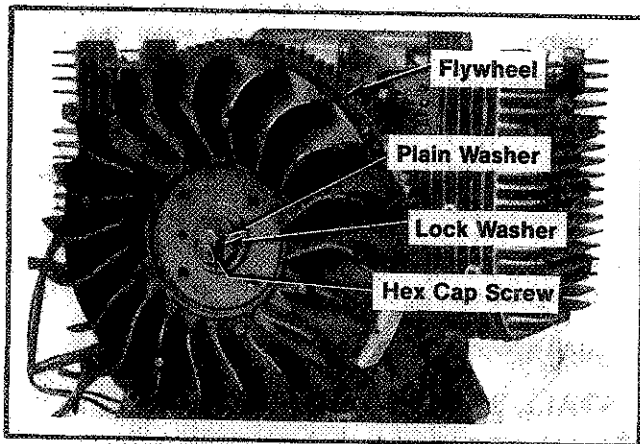

Figure 11-37. Installing Flywheel Fastener.
2. Place the flywheel on crankshaft and install plain washer, split lock washer, and hex cap screw (lubricate threads with oil). Refer to Figure 11-37.